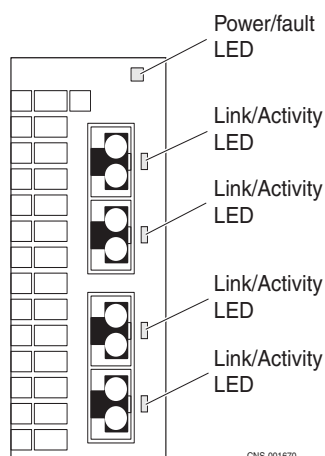

Figure 49 Four-port 8-Gb/s FC I/O module LEDs
The four-port 8-Gb/s Fibre Channel (FC) I/O module has two different types of status LEDs. Figure 49 shows the LEDs and Table 32 describes them.